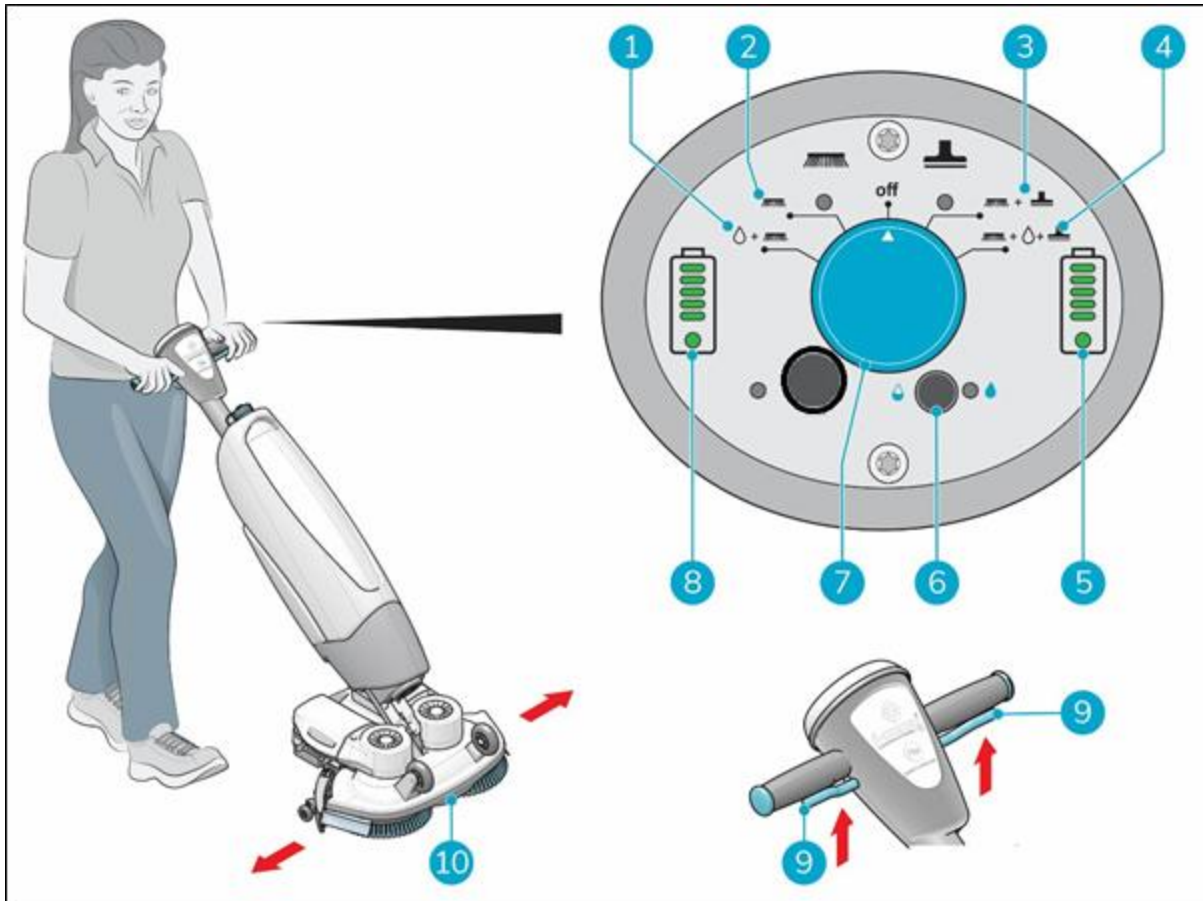

Figure 17
5. Choose your cleaning mode via the main switch (Figure 17, pos 7). This will also turn on the i-mop XL Plus.
- MODE 1: Brush + water/cleaning solution (Figure 17, pos 1).
- MODE 2: Brush only (Figure 17, pos 2).
- MODE 3: Brush + vacuum (Figure 17, pos 3).
- MODE 4: Brush + water/cleaning solution + vacuum (Figure 17, pos 4).
7. Squeeze the trigger on the handle (Figure 17, pos 9).
10. Steer by gently turning the handle left or right to move the scrub deck (Figure 17, pos 10).
11. Releasing the trigger (Figure 17, pos 9) will immediately stop the i-mop® XL Plus. The vacuum motor will stop after 3 seconds.